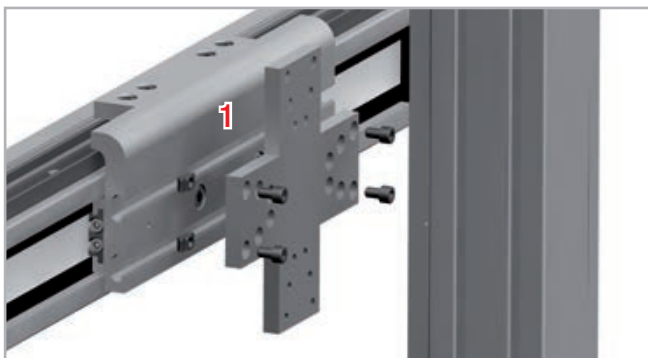

Fig. 96
1. Insert the screws from one side of the connection plate into the prepared holes (see fig. 96).